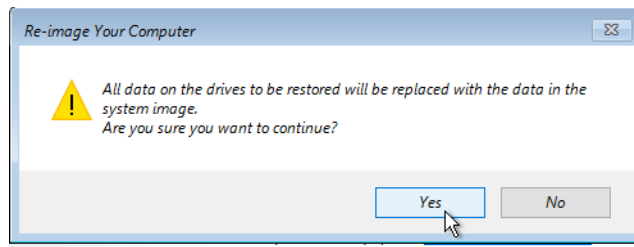

Figure 10
12. In the menu (Figure 10), you have a final chance to exit the Restoration process without making any changes.